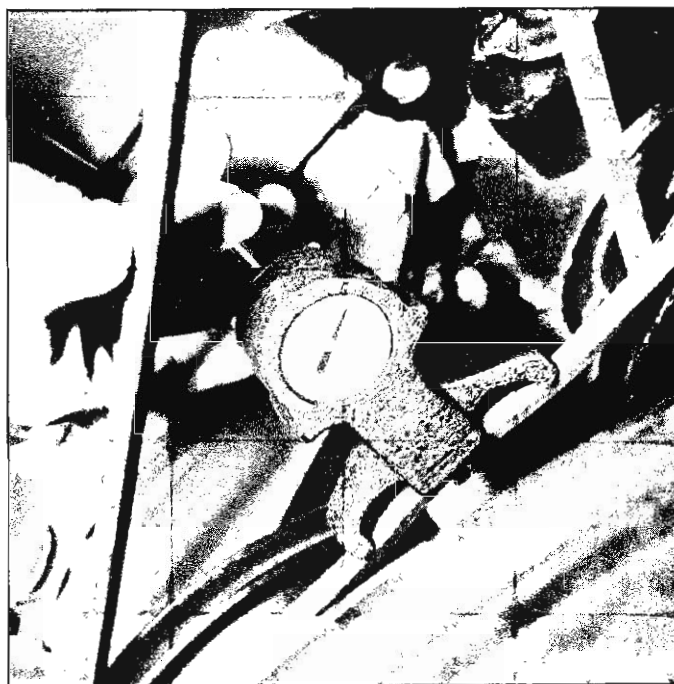
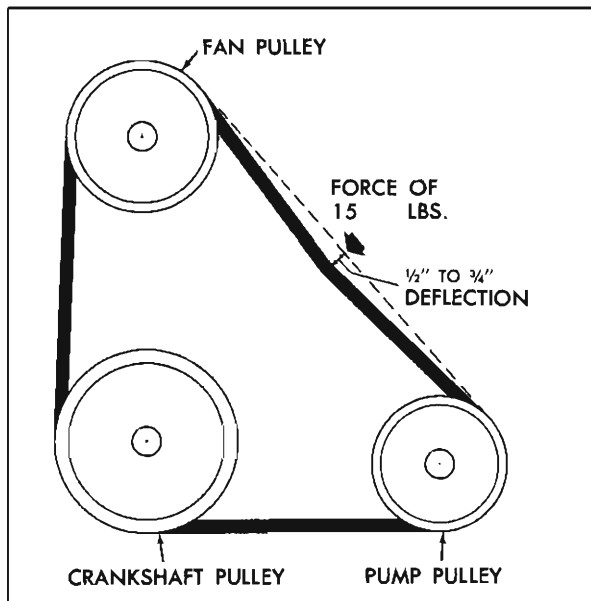

Fig. 61—Checking Belt Tension with Tool J-7316
Fig. 62—Checking Belt Tension by Deflection
2. Move pump, with belt in place, until belt is tensioned to 75 lbs. strand tension for new belts, and 50 lbs. strand tension for old, as indicated by Tool J-7316 (fig. 61), or so that 15 lbs. of force applied at the midpoint between the power steering pump pulley will cause $\frac{1}{2}$ " to $\frac{3}{4}$ " belt deflection (fig. 62).